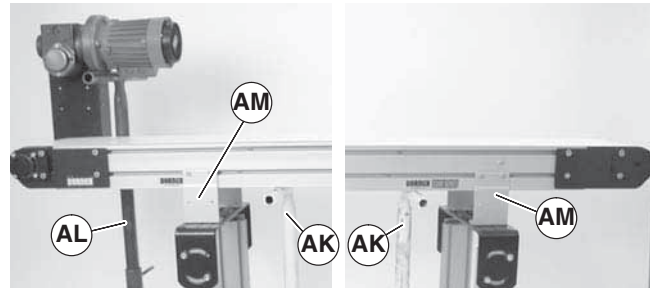

Figure 20
1. Place temporary support stands (Figure 20, item AK) at both ends of the conveyor. Place an additional support stand under the drive motor (AL), if equipped. See WARNING.
2. Remove mounting brackets (Figure 20, item AM) from one side of conveyor. (Reverse steps 3 & 4 of “Mounting Brackets” section on page 7).
1. Ensure temporary support stands (Figure 20, item AK) are placed at both ends of the conveyor. Place an additional support stand under the drive motor (AL), if equipped. See WARNING.